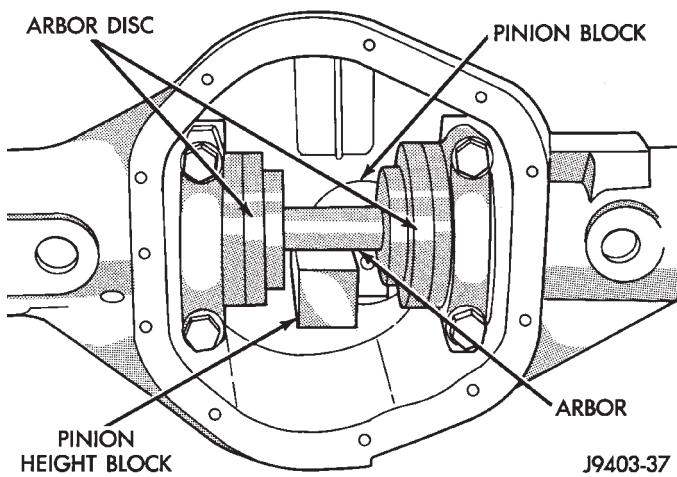

Fig. 79 Gauge Tools In Housing—Typical
(4) Place Arbor Disc 6927 on Arbor D-115-3 in position in axle housing side bearing cradles (Fig. 79). Install differential bearing caps on Arbor Discs and tighten cap bolts. Refer to the Torque Specifications in this section.